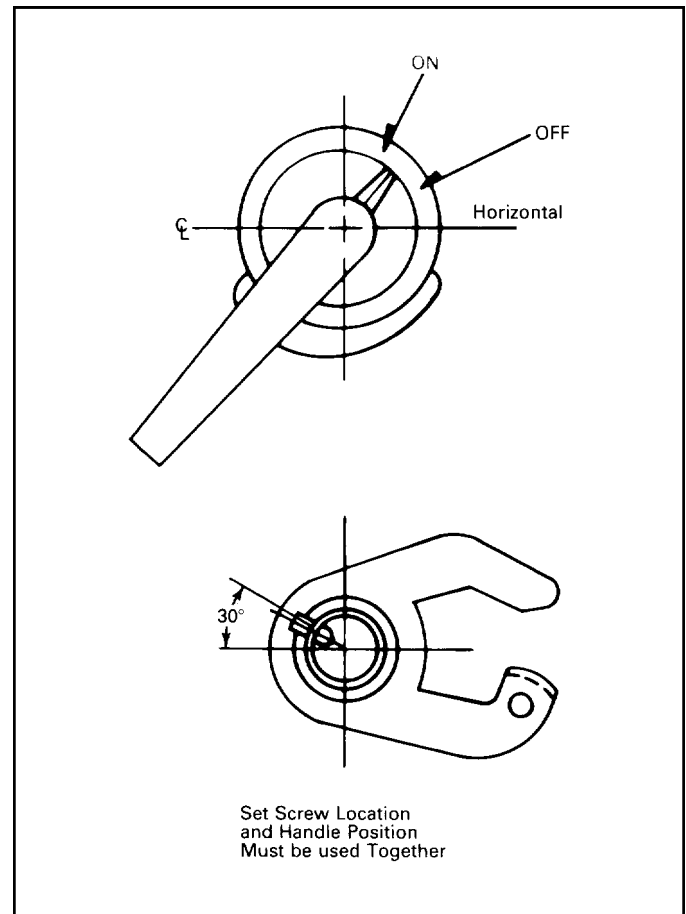
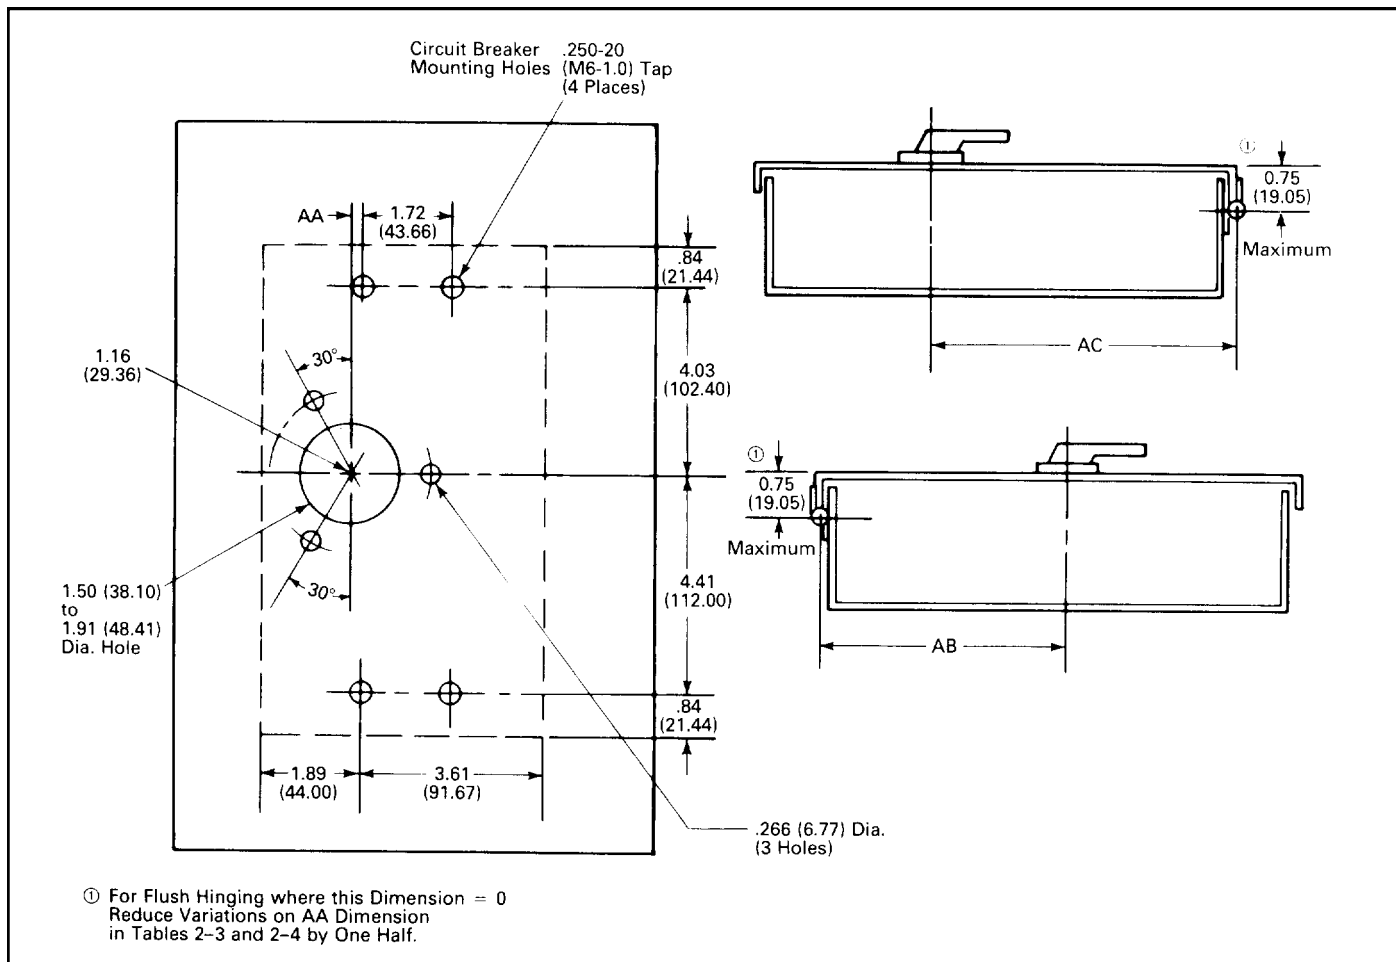

Fig. 2-6 Diagonal Handle Position, K-Frame Series C Circuit Breaker
Fig. 2-7 Enclosure Drilling Plan, K-Frame Series C Circuit Breaker
① Refer to Fig. 2-7 to apply the dimensions in this table.
② Dimensions are shown in inches, with millimeters in parenthesis.
③ Where cabinet hinging produces a difficult handle/shaft engagement angle, dimension variations are given to permit easier engagement when closing the cabinet door. Avoid maximum variations where possible.
**Table 2-4. Enclosure/Handle Assembly Location Dimensions For K-Frame Series C Circuit Breakers For Use With Diagonal Handle Position Only (Fig. 2-6)①②③**